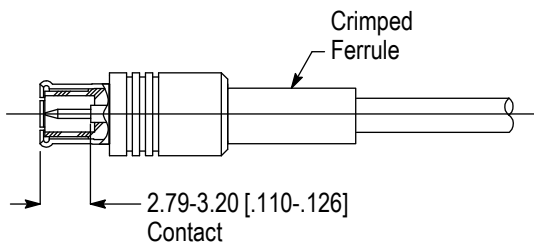

Figure 3
7. Inspect the assembled plug according to Figure 3.